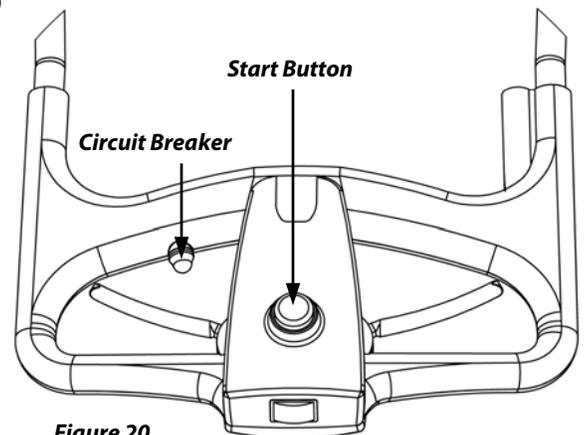

Figure 20
1. Depress the orange Start Button (**Figure 20**).
- Make sure the black Circuit Breaker Button on the Handlebar is depressed (**Figure 20**).
- Did you follow the two (2)-step Start sequence: depress the orange Start Button, then squeeze and hold the Control Lever(s)?